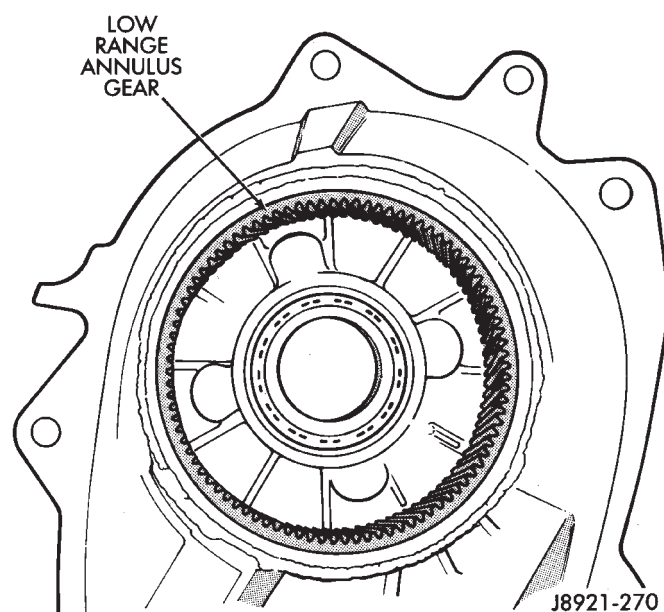

Fig. 33 Inspecting Low Range Annulus Gear
(47) Inspect low range annulus gear (Fig. 33). **The gear is not a serviceable component. If damaged, replace gear and front case as an assembly.**